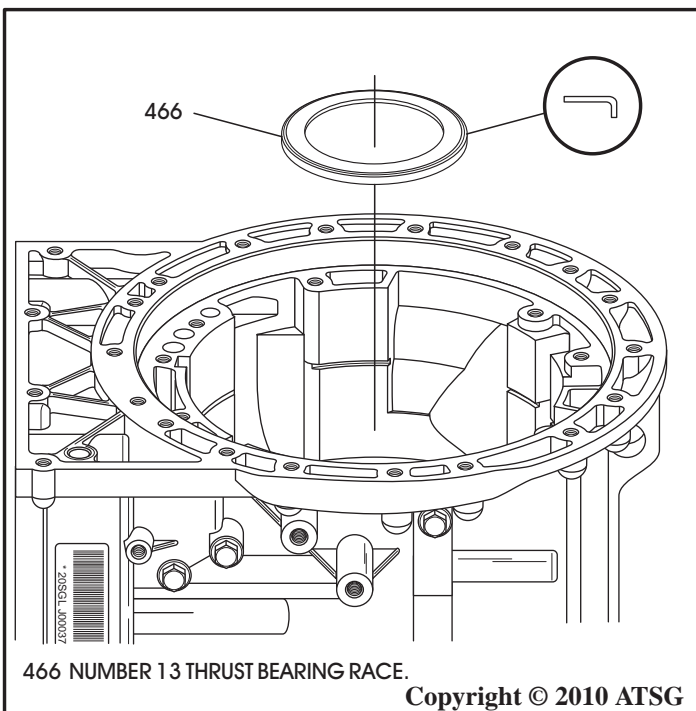

Figure 201
2. Ensure that the number 13 thrust bearing race is still installed in case, as shown in Figure 201.